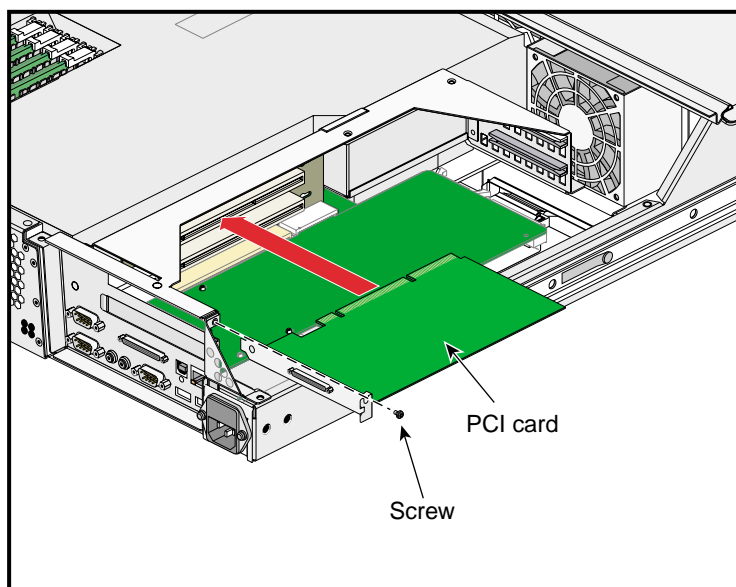

Figure 4-4 Installing a PCI Card
8. Install the retaining screw as shown in Figure 4-4.